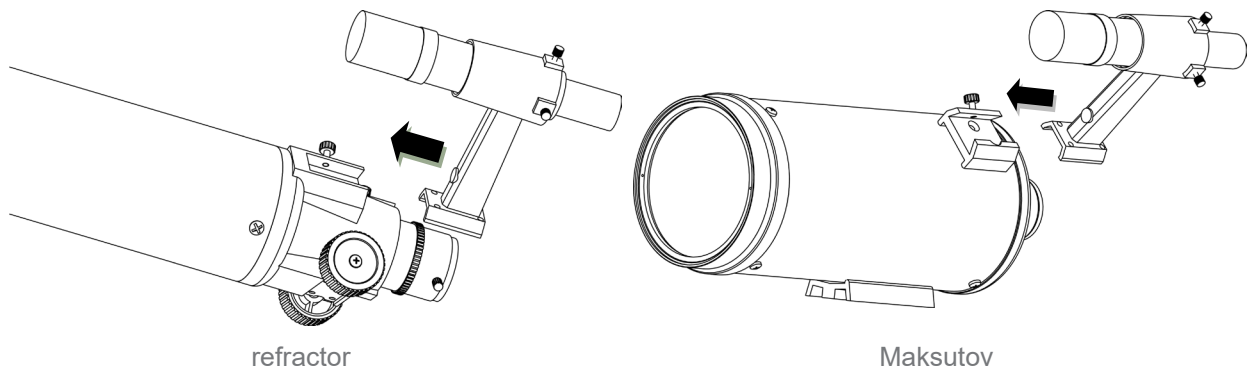

Fig.17
1. Attaching the Finderscope Bracket (Fig.17)